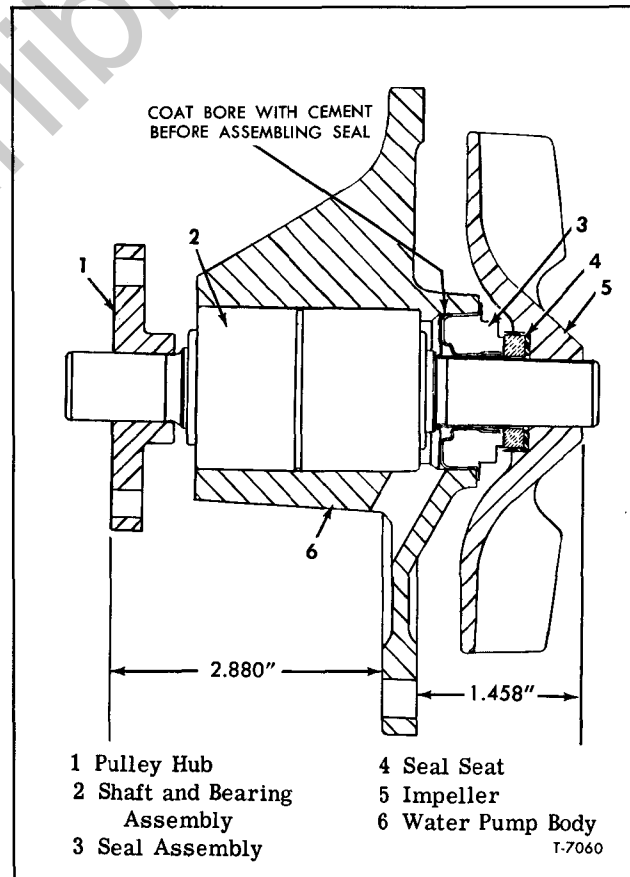
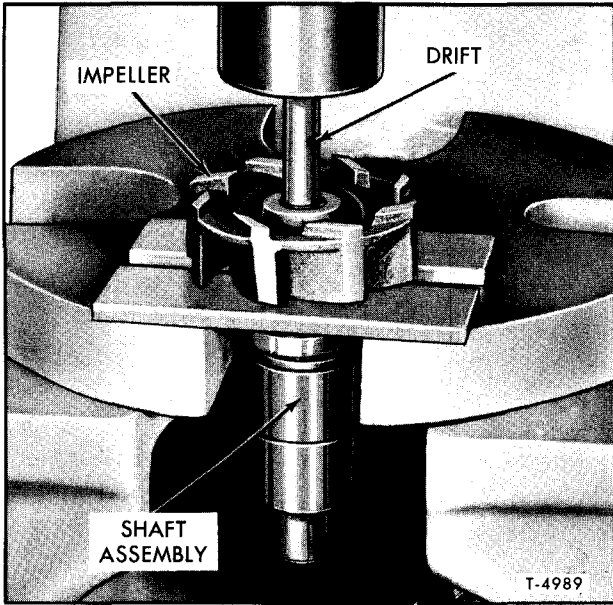

Figure 23—Engine Water Pump (401M and 478M Engines)
Figure 27—Removing Shaft from Impeller (6V-53 Engine)
NOTE: Key numbers in text refer to figure 23 except as otherwise indicated.
Assembly (Fig. 23)
a. On pump used on 401M and 478M engines, the impeller (5) must be positioned so rear face of impeller hub is 1.458" from mounting flange surface on pump body (fig. 23).
6. While supporting rear end of pump shaft, press pulley hub on front end of shaft to dimensions shown in figure 23. Note that on pumps for 401M and 478M engines (fig. 27) the extended side of hub (1) is toward bearing.
4. Press the end of the shaft out of the impeller as shown in figure 27, using plates and drift.